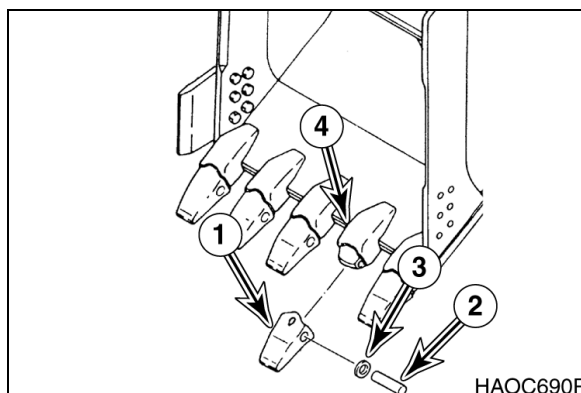

Figure 82
2. To replace a tooth (1, Figure 82), use a hammer and punch to drive locking pin (2) and lock washer (3) out of tooth adapter (4).